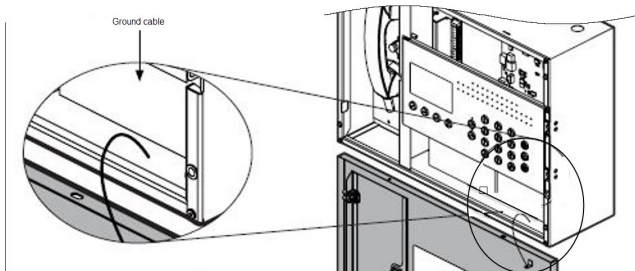

Figure 9. Disconnect the ground cable from the MX16US front panel
4. Refer to Figure 9; disconnect the ground cable from the front panel; leave the ground cable connected to the enclosure.